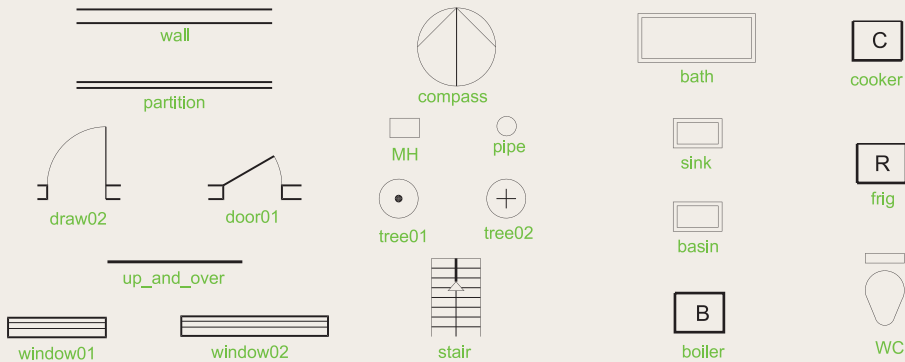

Fig. 9.22 Exercise 1
1. Construct the building symbols shown in Fig. 9.22 in a drawing saved as **symbols.dwg**. Then using the **DesignCenter** construct a building drawing of the first floor of the house you are living in making use of the symbols. Do not bother too much about dimensions because this exercise is designed to practise using the idea of making blocks and using the **DesignCenter**.